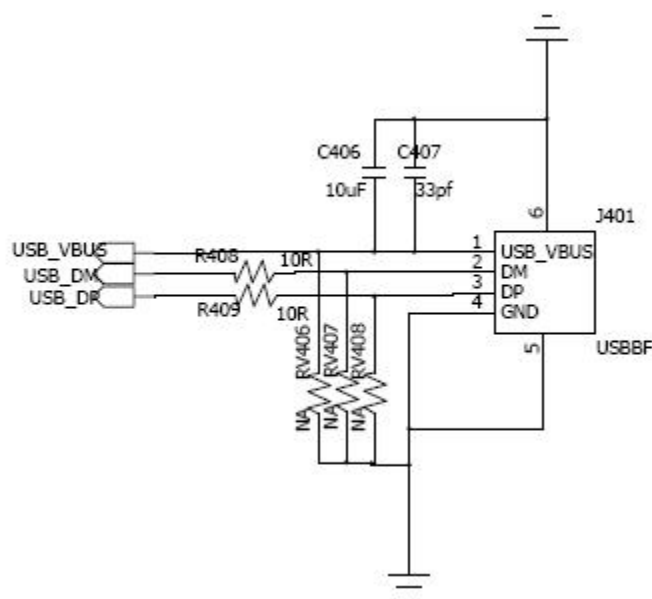

Figure 2-7 The reference circuit of USB interface
The reference circuit of USB interface is shown in figure 2-7.
- 2) For reducing the BER of USB transmission, it is recommended to add a resistor with values below 10 Ω to the DM and DP in USB interface. Just like the resistors R408 and R409 in figure 2-7.